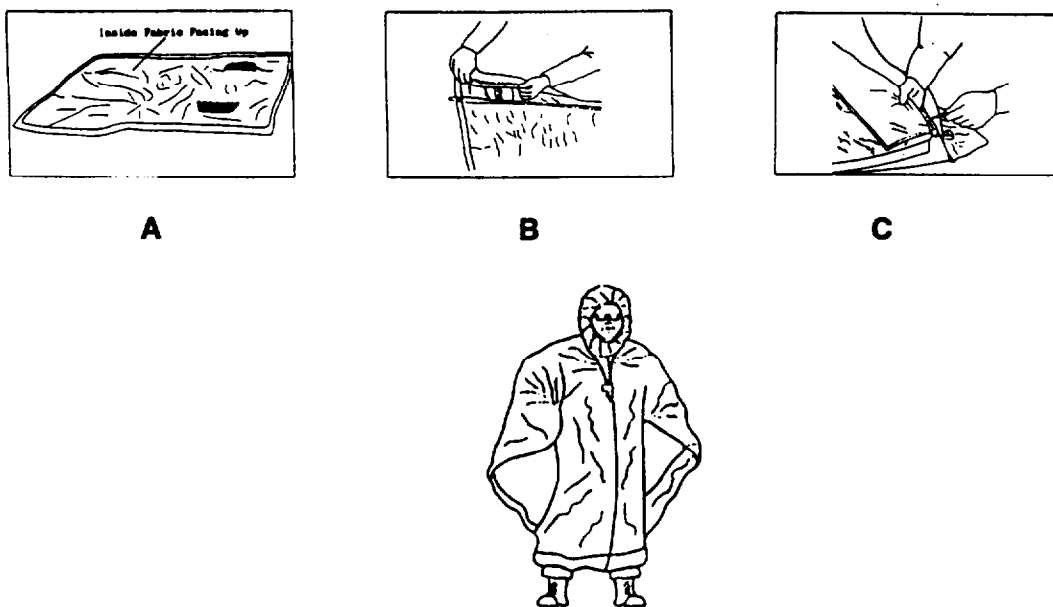

Figure 2-11A Poncho with Liner/Bag
- (8) To install the Multi-Purpose sleeping (liner) bag into the tent to wear as an insulated poncho (see figure 2-11A), proceed as follows: